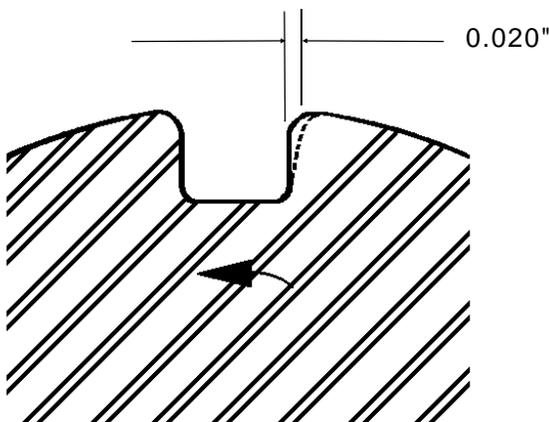

Figure 9
- 4.2.4 Inspect the spline grooves. These grooves are surface hardened. Wear must not exceed .020" (0,5mm) measured as shown in Figure 9. Record the specific amount of wear from each of the spline grooves.